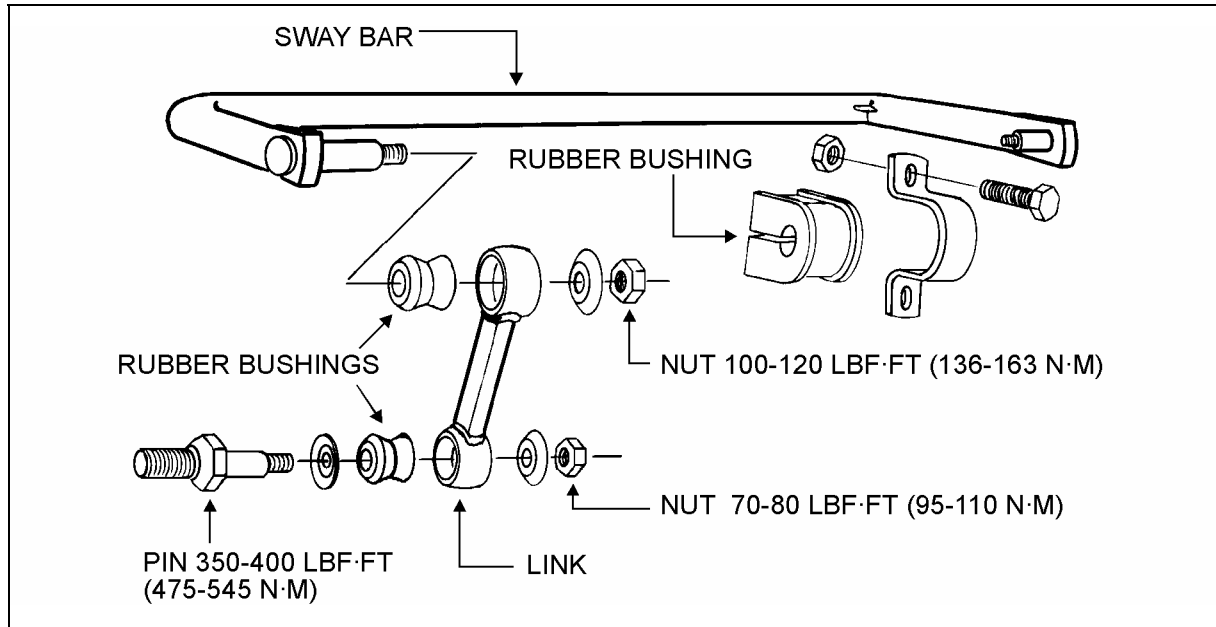

FIGURE 10: SWAY BAR
A sway bar is provided on the front and drive axles to increase vehicle stability. It controls lateral motion (swaying movement) of vehicle (Fig. 10).
2. Tighten the eight bushing collar nuts to 70 - 80 ft·lbf (95 - 110 N·m) (Fig. 10).
3. Tighten sway bar link upper nuts to 100 - 120 ft·lbf (136 - 163 N·m) and lower nuts to 70 - 80 ft·lbf (95 - 110 N·m) (Fig. 10).